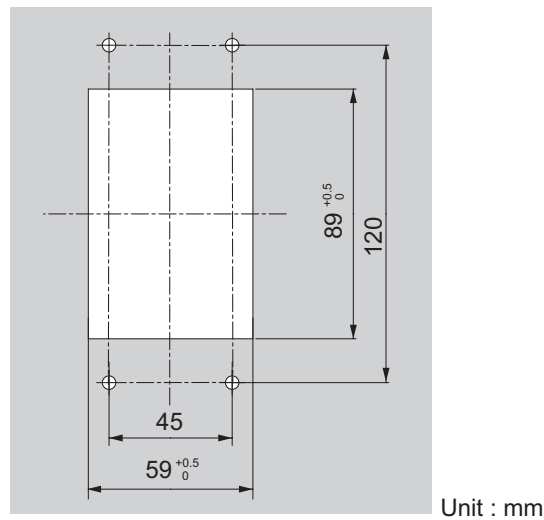

Figure 2.9 Panel Cut-Out Dimensions (Internal/Flush-Mount Installation)
1. Cut an opening in the enclosure panel for the digital operator as shown in *Figure 2.9*.